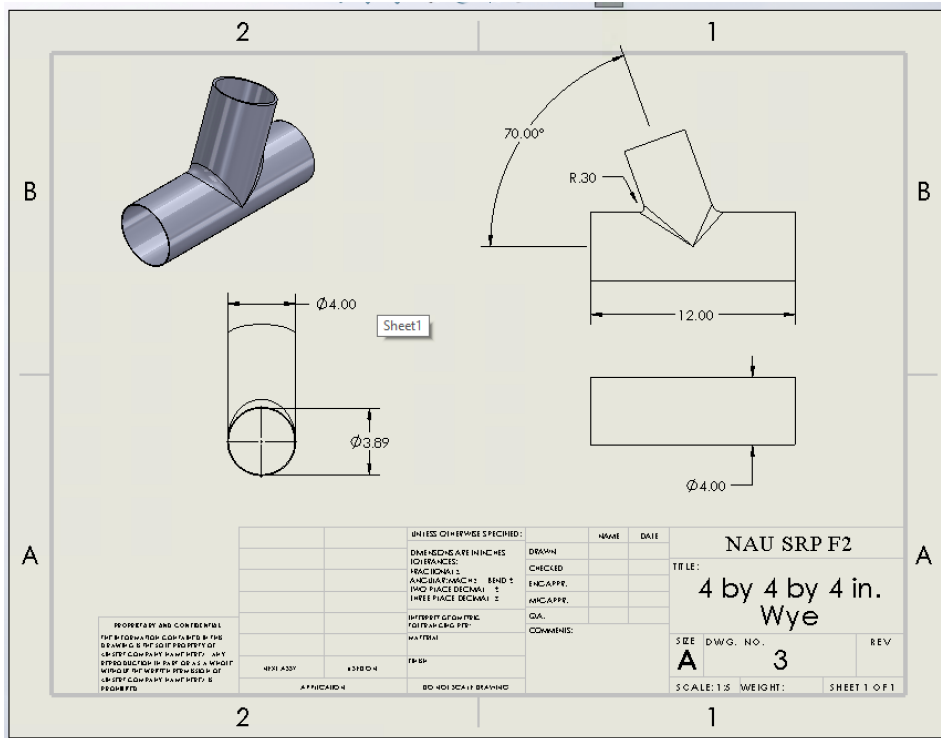

Figure 5: 4 by 4 Inch Wye Drawing
8. Place PCM on racks created from rebar. As shown in Appendix A of Figure 5.